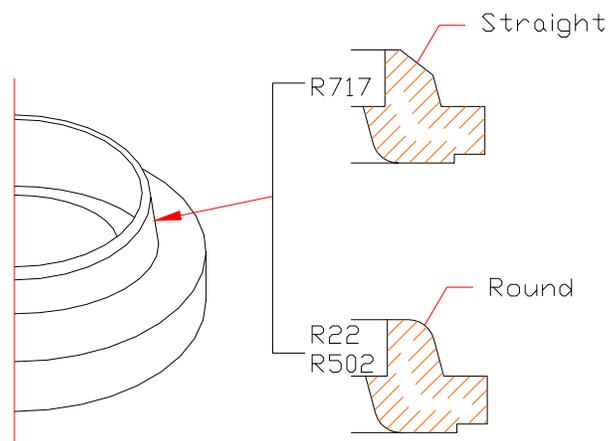

Fig. 6
- c) Compressor conversion from Ammonia to Freon or vice versa should only be attempted after consultation with Hasegawa as some components are unique to each application, for example the outer seat shown in (Fig. 6).